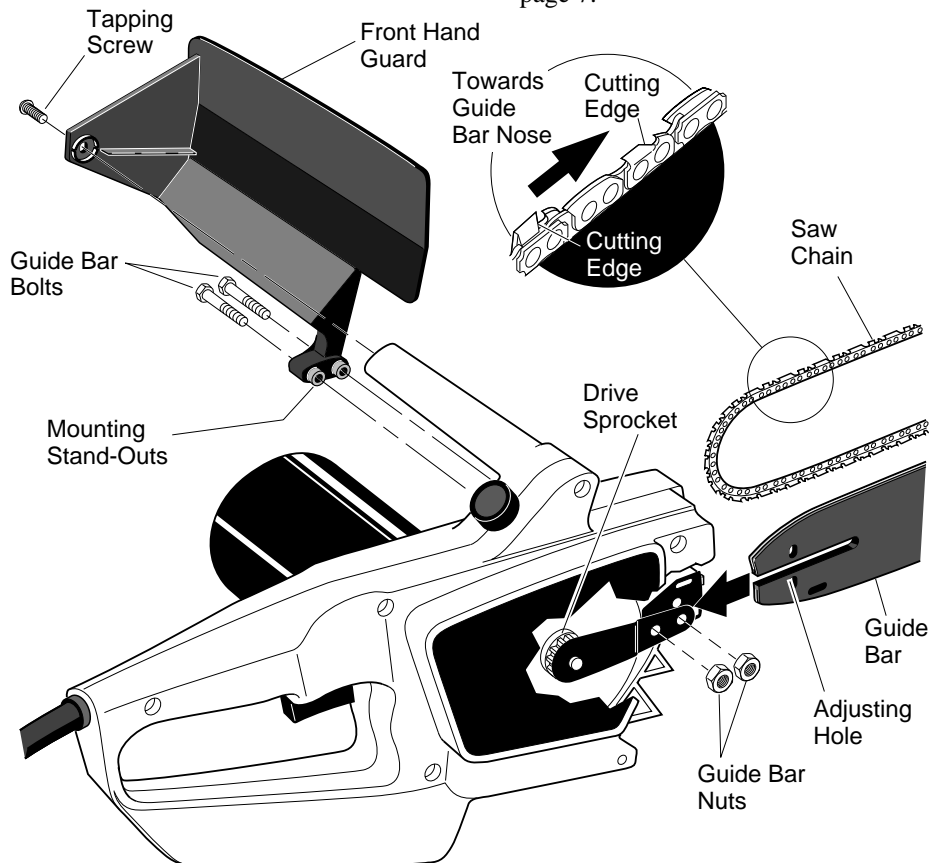

Figure 3 - Assembling Guide Bar, Chain, and Hand Guard
2. Install front hand guard onto saw body. Do this by pressing two mounting stand-outs on hand guard into hex-shaped holes in saw body (see Figure 3).
8. Place chain around drive sprocket, then along top groove of guide bar and around guide bar nose. **Note:** Make sure cutting edges of chain are facing the right direction. Position chain so cutting edges on top of guide bar face guide bar nose (see Figure 3).
1. Before adjusting chain, make sure guide bar nuts are only finger tight (see Figure 3, page 6). Also make sure adjusting block is in oval adjusting hole on guide bar (see Figures 3 and 4, page 6).